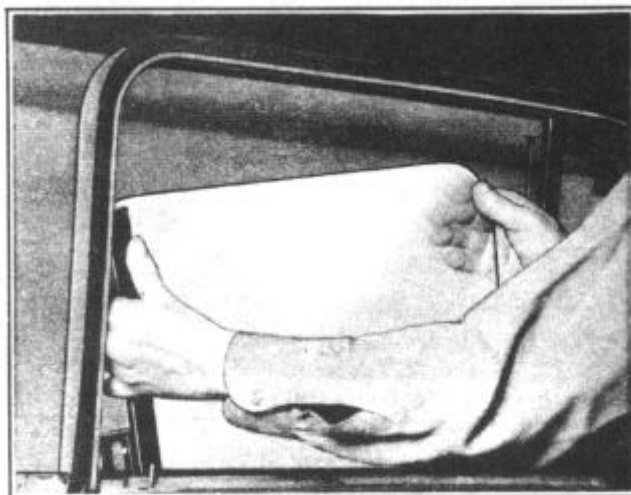

FIGURE 6
5. Remove regulator arm from glass channel, bring the door glass down and at the same time turn the glass 1/4 turn to bring the narrow side of glass to the top, as shown in Figure 6. Tilt glass inward and remove through the top opening in door.